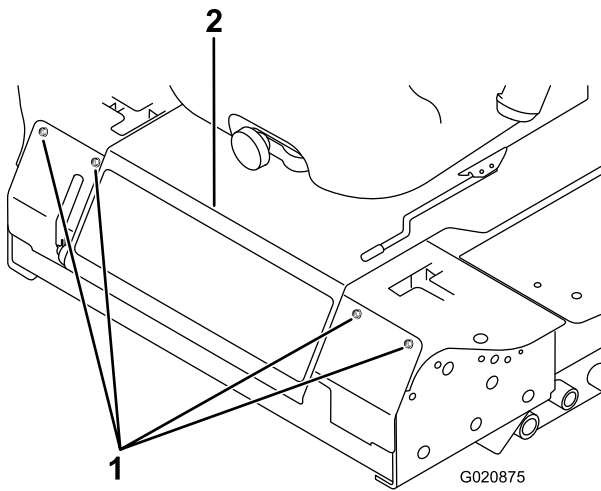

Figure 50
3. Remove the bolts securing the front panel and remove the panel (Figure 50).